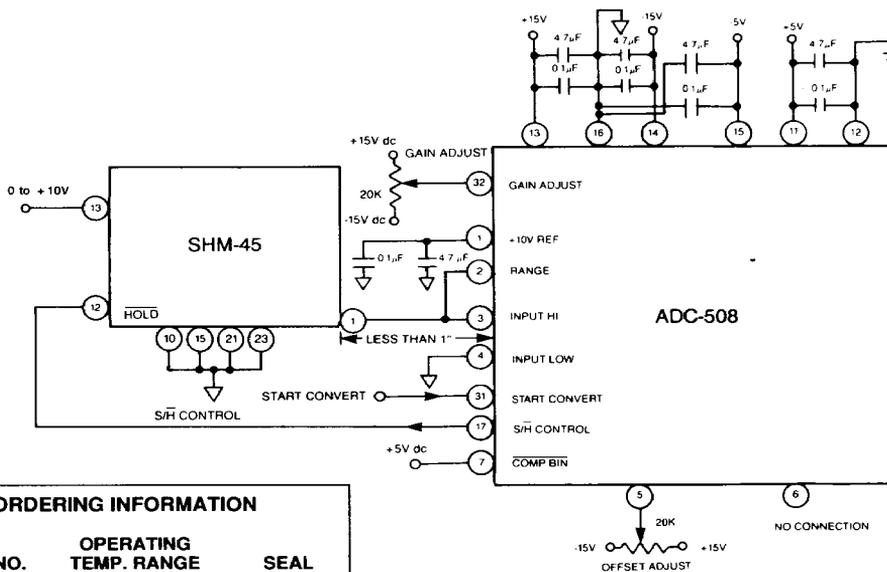

Figure 3. ADC-SHM Connection Diagram
9. Requirements for $\pm 2.5\text{V}$ inputs can be satisfied using DATEL's AM-1435 amplifier in front of the SHM-45/ADC-508 configuration, shown in Figure 3, at the appropriate gain. The SHM-45's gain of 2 mode allows 0 to +5V or $\pm 5\text{V}$ input ranges.
1. Connect the converter per Figure 3 and Table 2 for the appropriate full-scale range (FSR). Apply a pulse of 50 nanoseconds minimum to the START CONVERT input (pin 31) at a rate of 500 KHz. This rate chosen to reduce flicker if LED's are used on the outputs for calibration purposes.